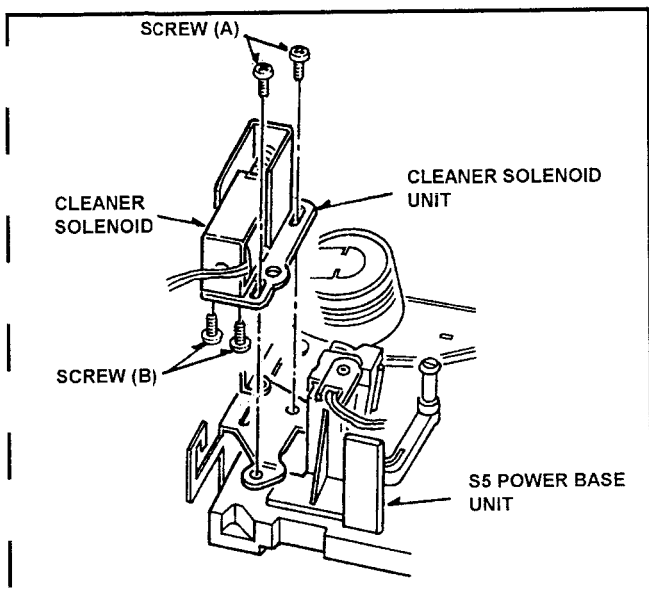

Fig. 6-15-1 Removal of Cleaner Solenoid
6. Unscrew the 2 screws (A) and remove the Cleaner Solenoid Unit as shown in Figure 6-15-1.
7. Unscrew the 2 screws (B) and remove the Cleaner Solenoid as shown in Figure 6-15-1.